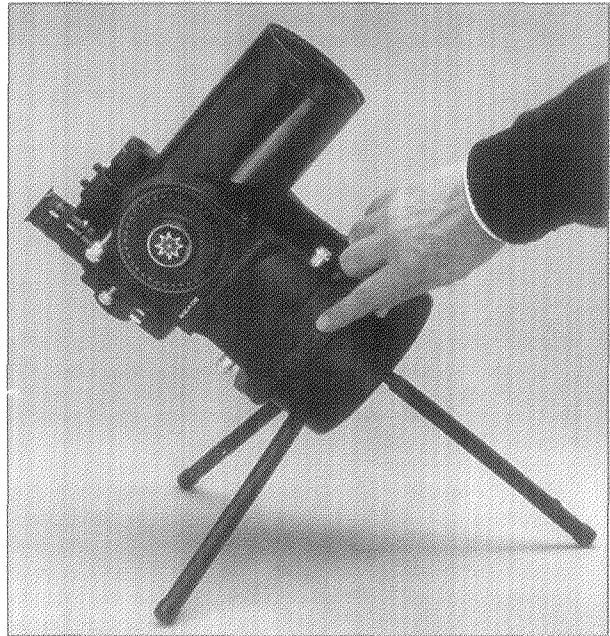

Fig. 10: Manually turning the R.A. setting circle to read the Right Ascension of an object.
2. Manually turn the R.A. circle (Fig. 10) to read the R.A. of the object.